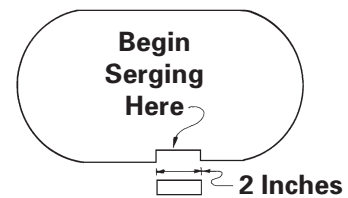

Fig. 22-3
1. Pretrim along the seam line about 2 inches (5 cm). If you are serging the edges of an oblong or oval placemat, begin and end the stitching along a straight edge. (Fig. 22-3)